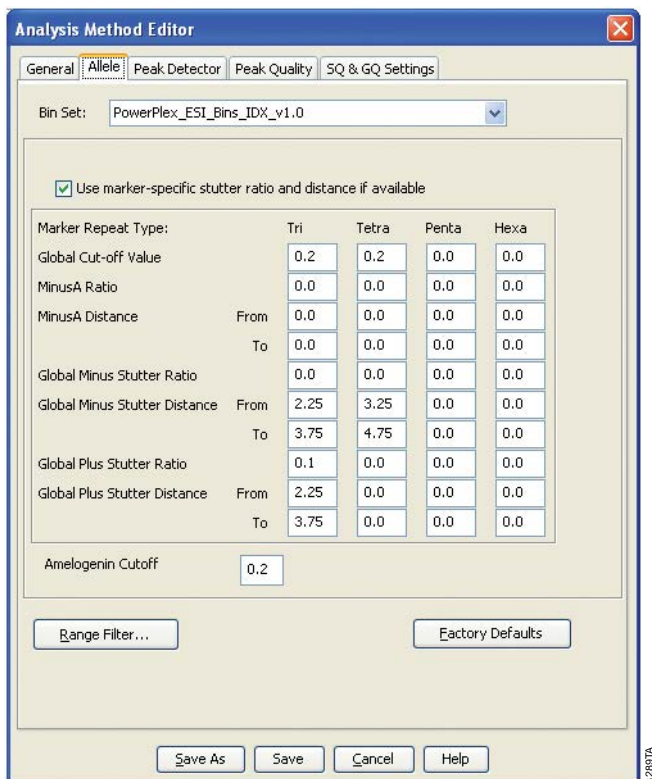

Figure 19. The GeneMapper® ID-X Allele tab.
6. Select the Allele tab (Figure 19).
8. We recommend the values shown in Figure 19 for proper filtering of stutter peaks when using the PowerPlex® ESI 17 Pro System. You may need to optimize these settings. In-house validation should be performed.